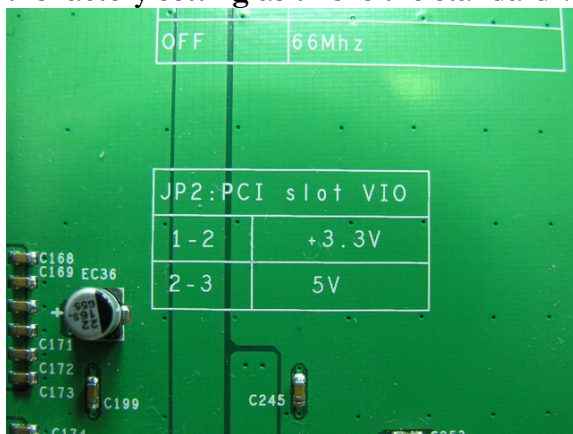
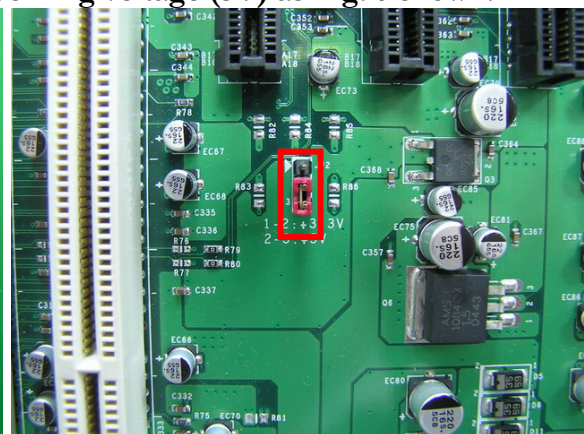

Fig.6
Fig.7
**JP2** configures the PCI slot working voltage (5V or 3.3V) as Fig. 6 shown. By default, the factory setting as this is the standard working voltage (5V) as Fig. 7 shown.